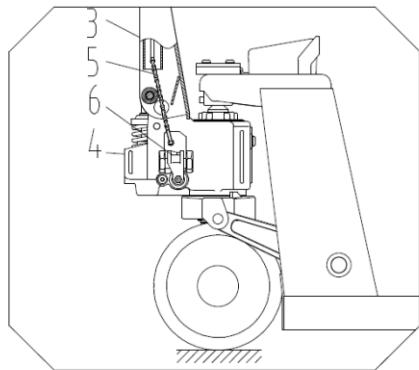

Fig. 2
3. Put the chain 5 of the handle pipe through the hole of the pin roll 2. (*Fig. 2*)
4. Take the screw nut at the end of chain 5 and hitch the groove of lever board 6. (*Fig. 2 and 4*)